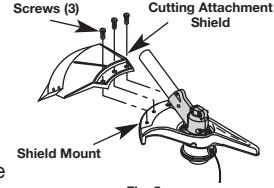

Fig. 5
Remove the cutting attachment shield from the shield mount by removing the three (3) screws with a flat blade screwdriver (Fig. 5). Store parts for future use.
Install the cutting attachment shield on the shield mount by inserting the three (3) screws into the shield mount. Tighten securely with a flat blade screwdriver (Fig. 5).